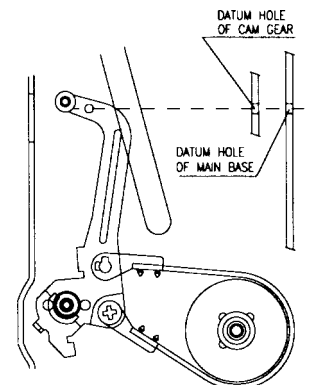

Fig. 26 - Tension Band Assembly Alignment with Main Base
- After reassembling, adjust the position of the tension pole as shown in Fig. 26.